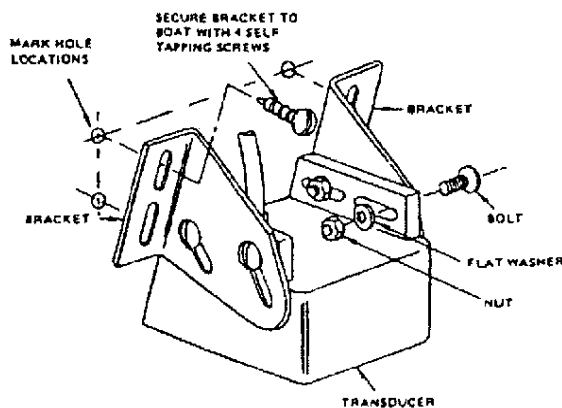

Figure 6. Transducer Installation
1. Assemble the transducer in temporary form as shown in Figure 6.